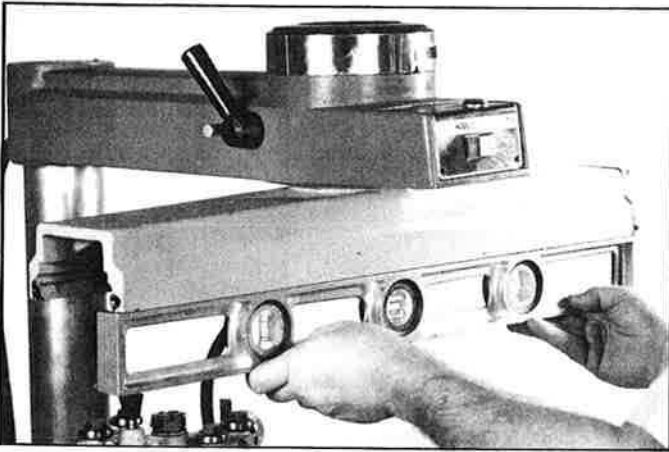

Fig. 5
3. Swing the track-arm 90 degrees and check to make sure the arm is level, as shown in Fig. 5. Add additional shims if necessary. **IMPORTANT:** After the cutting head is installed to the track-arm, recheck these instructions to make sure the track-arm is properly adjusted, as explained in STEPS 1, 2, and 3.